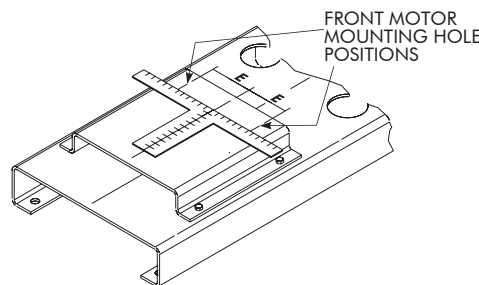

Figure 8B — Layout of Motor Mount Holes on Pedestal
- With a carpenter's square, measure and mark the determined distance perpendicular to the center line to get the front motor mounting hole positions. Repeat step for other side of center line. Reference Figure 8B.